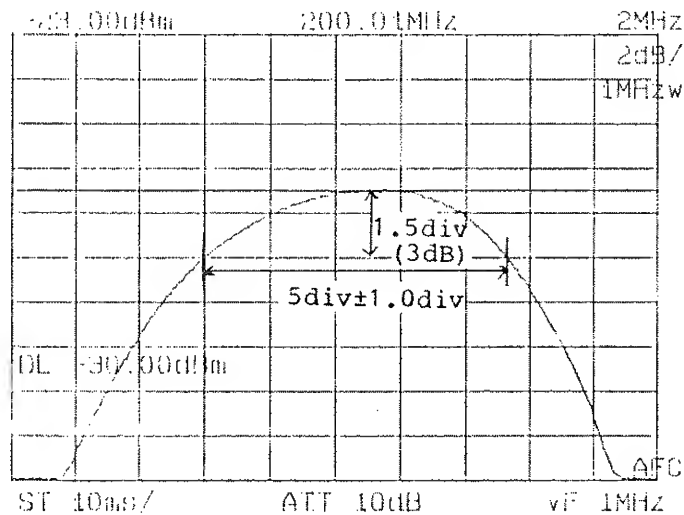

Figure 11-13 Resolution Bandwidth Accuracy Test
- ③ Set the span to 2 MHz. If the signal peak moves from the center of the display screen, center it again by turning the TUNING dial.
- ④ Set the resolution bandwidth to 1 MHz.
- ⑤ Turning the spectrum analyzer AMPTD CAL control, adjust the signal peak to be 1.5 divisions (3 dB) above the horizontal axis in the center of the display screen. (See Figure 11-13.)